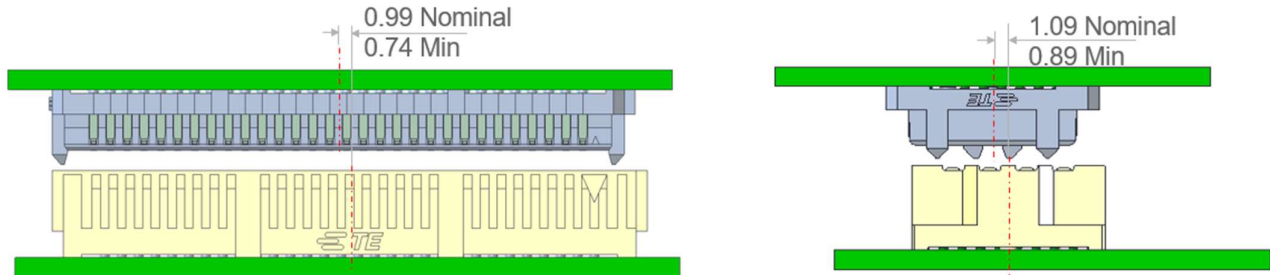

Figure 9
1. The connector guide is with ability of 0.8mm min misalignment during mating in length direction, 0.89mm min in width direction. See Figure 9.